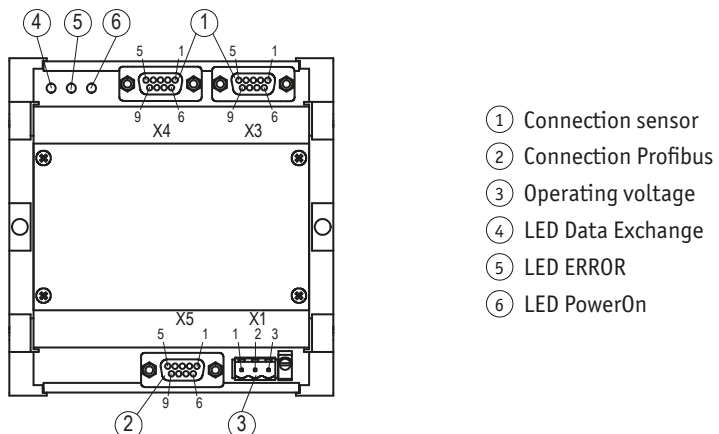

Fig. 2: Connection
- ① 9 pole D-Sub socket contact (see Fig. 2).
- ② 9 pole D-Sub socket contact (see Fig. 2).
- ③ 3 pole plug plug pin (see Fig. 2).